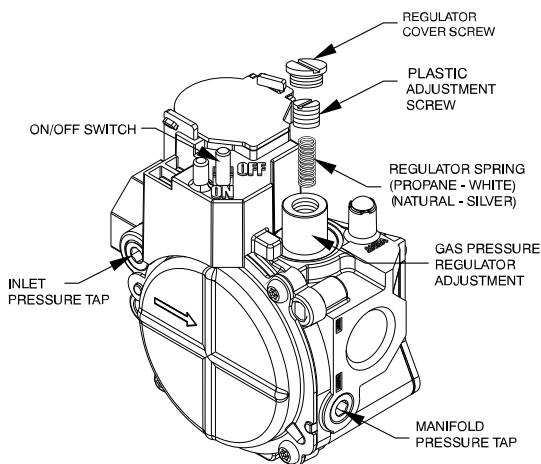
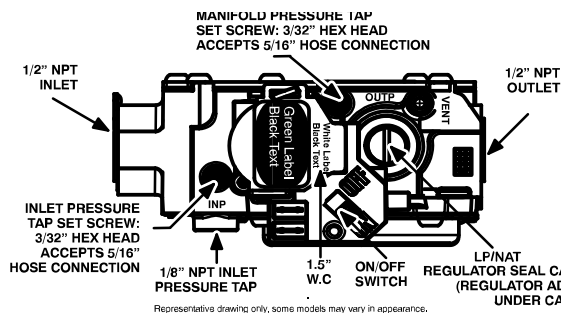

Fig. 5 – Single-Stage Gas Valve
Fig. 6 – Single-Stage Gas Valve with Tower Pressure Ports
- For Ultra Low NOx units with standard gas valve, remove manifold pressure tap cover using an allen wrench. (See Fig. 5.) Install barbed pressure tap and hose to connect to manometer. Turn on gas supply to unit.
- For gas valve with tower pressure ports, loosen set screw on manifold tower pressure tap no more than one full turn counter-clockwise with a 3/32-in. hex wrench. (see Fig. 6.) Connect manometer by sliding 5/16-in connecting hose over the manifold tower pressure port. Turn on gas supply to unit.
- Remove regulator cover screw over plastic adjustment screw on gas valve (See Fig. 5 and Fig. 6).
- Turn plastic adjustment screw clockwise to increase gas input, or turn plastic adjustment screw counterclockwise to decrease input (See Fig. 5 and Fig. 6). Manifold pressure must be between 3.2 and 3.8 IN. WC.
3. Replace regulator cover screw on gas valve (See Fig. 5 and Fig. 6).
- b. For gas valve with tower pressure port, remove connecting hose. Tighten set screw clockwise on manifold pressure port using a 3/32-in hex wrench. (See Fig. 6.)